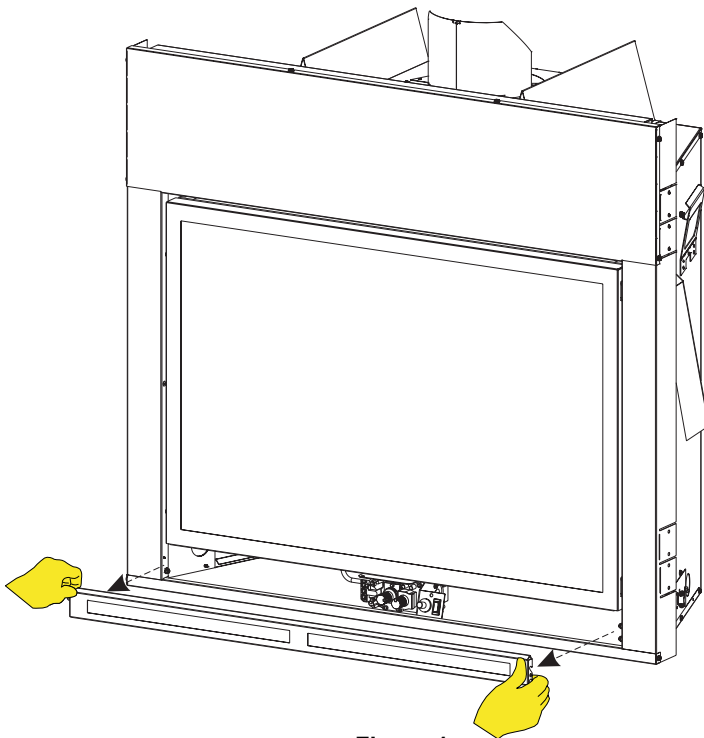

Figure 1
1. Remove lower panel by lifting it up and out. **See Figure 1.**